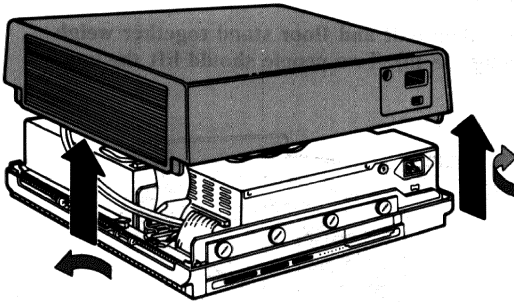

Figure 5-3 System Unit Top Cover Removal
5. Lift cover as shown in Figure 5-3.
4. Remove the system unit top cover. See Figure 5-3.